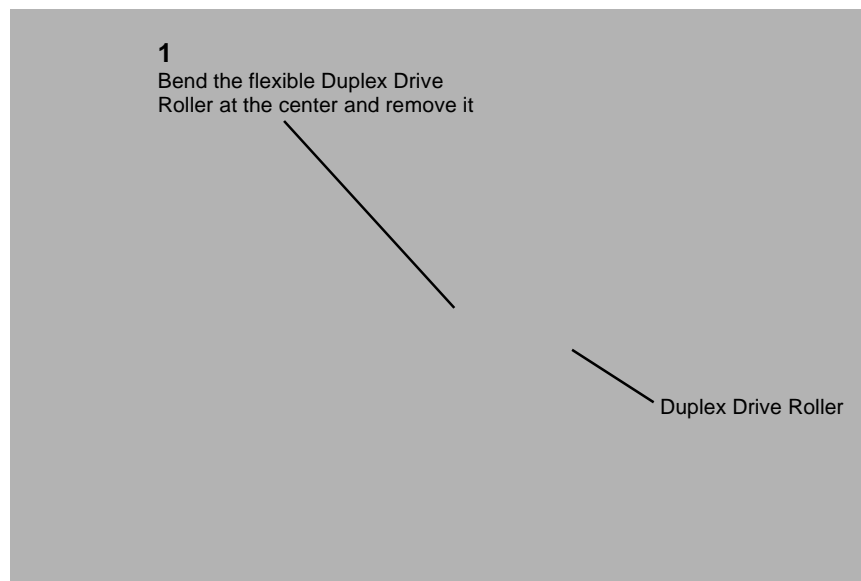

Figure 2 Removing the Duplex Drive Roller
3. (Figure 2): Remove the Duplex Drive Roller.